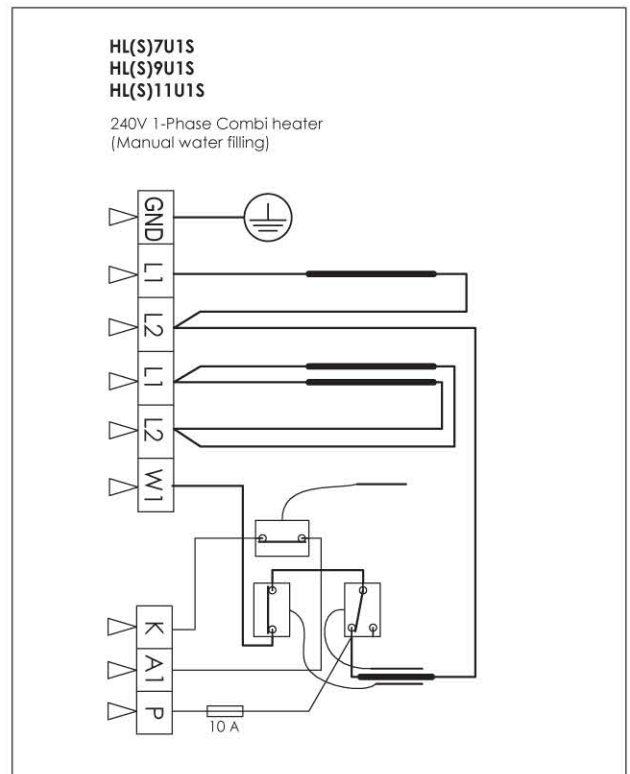

Figure 8. Electrical connections of heater
2. See applicable wiring diagram for heater model (figure 8, see control unit manual for detailed instructions how to connect the heater and the control unit). Heater must be permanently installed by using seal tight conduit between the heater and the wall of the sauna room (pigtailes or plugs are not allowed in the sauna room). Wiring must be done by a licensed electrician, who must follow wiring diagram provided and adhere to local codes. Use proper AWG rated wire size and use copper wire suitable for 194 °F (90 °C) within sauna walls. Use grounding terminals provided in sauna heater and control unit to properly ground the equipment as per NEC and local codes.